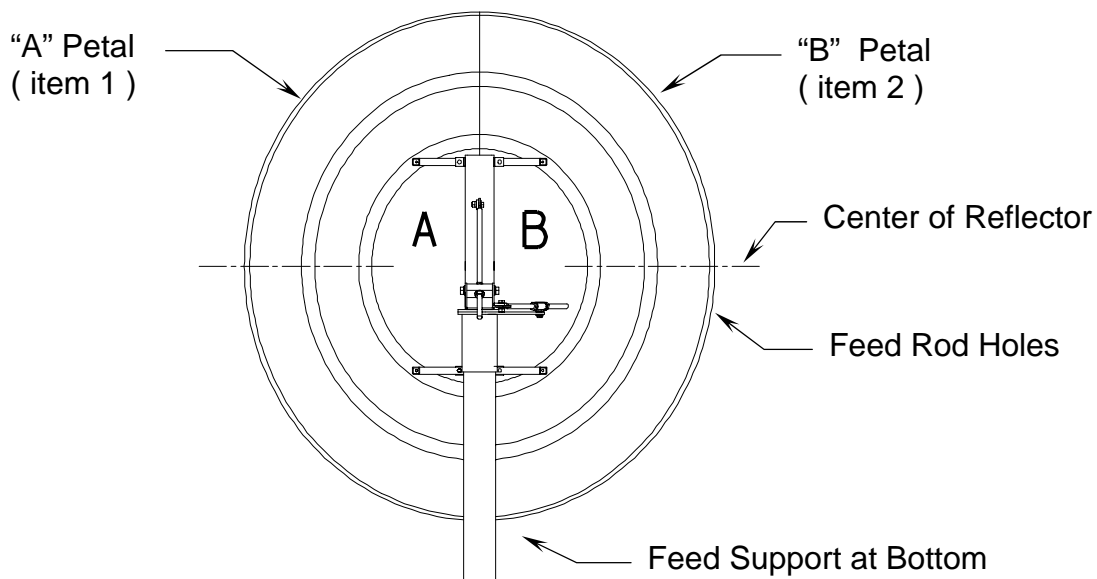

Figure 1
The series 1251 reflector petals are labeled “A” and “B”. In the standard upright position, the antenna elevation angle range is between 5 and 90 degrees. When viewed from behind in the standard position (feed support at the bottom), the “A” petal (item 1) is on the left side and the “B” petal (item 2) is on the right side – See Fig. 1.